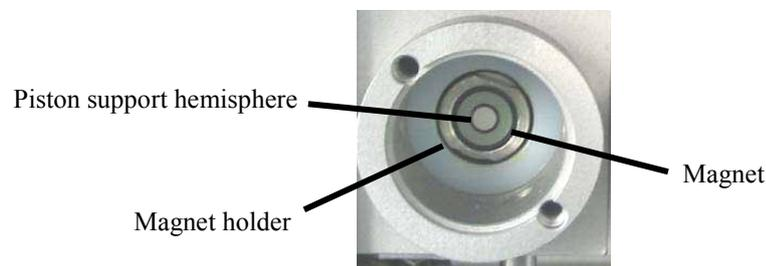

Fig. 49: Magnet holder
- Verify that the hemisphere (part no. 6269.0040), which supports the piston, remained in the holder. In rare cases, the hemisphere sticks to the piston and is removed with it. In this case, rub the hemisphere with a dry tissue. Apply some grease to the center of the holder (thin film). Insert the hemisphere with tweezers. The flat side must point toward you (→ Fig. 49).